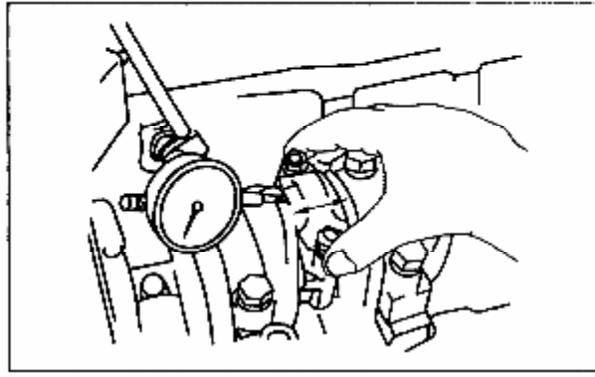

Figure 3-21 Check End Clearance of Connecting Rod Big End
**3.2.1** Check axial clearance between big end of connecting rod and end surface of crank-connecting rod journal with a feeler or a dial indicator. Nominal clearance: 0.160~0.312mm; maximum axial clearance: 0.35mm. If the clearance exceeds the maximum value, replace the connecting rod (see Figure 3-21).